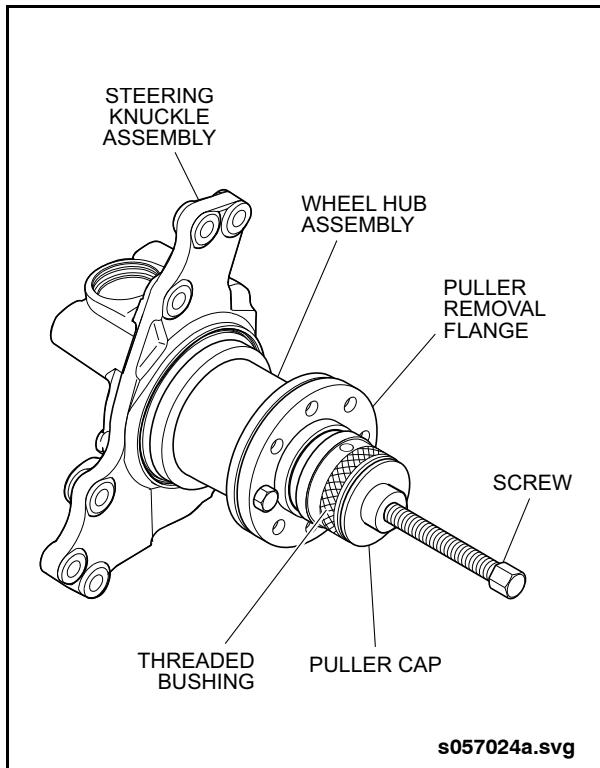

Fig. 1-14: Wheel Hub Removal
10. Install threaded bushing, puller cap, and spindle screw. (Items 36, 38, & 40 from special tools list) into the puller removal flange. See "Fig. 1-14: Wheel Hub Removal" on page 16.